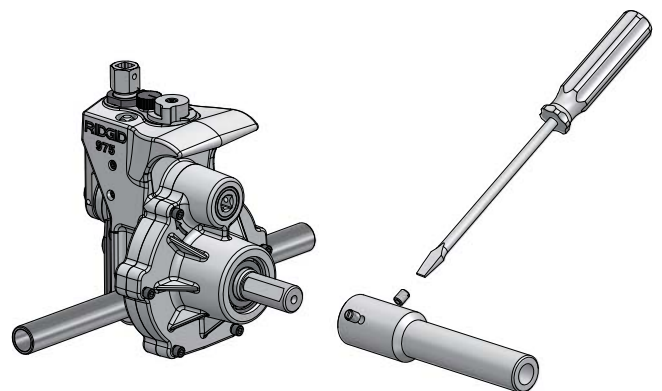

Figure 4 – Installing Drive Bar Adapter
1. Install the drive bar adapter onto the roll groover drive shaft (*See Figure 4*). Align set screws with the flats on the roll groover drive shaft and firmly tighten.